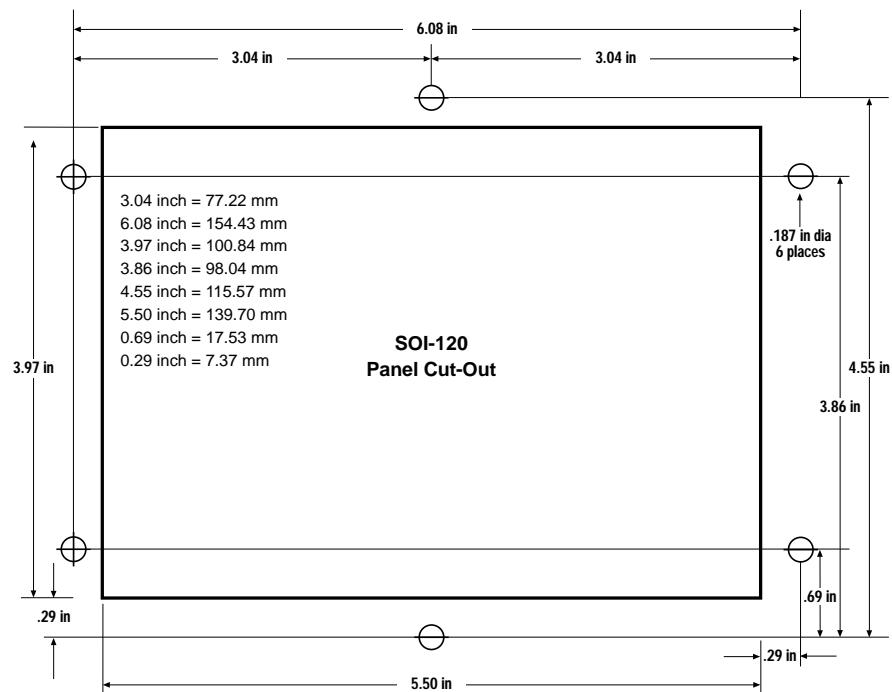

Figure 6.3 Panel cutout Dimensions in Inches
A cutout template (actual to scale dimensions) is provided in Appendix C to mark the cutout dimensions. Figure 6.3 is intended solely as a reference copy; please do not remove this page from the manual.
1. Cut an opening in the panel as shown in Figure 6.3. Use the full size cutout located inside the back cover of this manual. Remove any sharp edges or burrs.